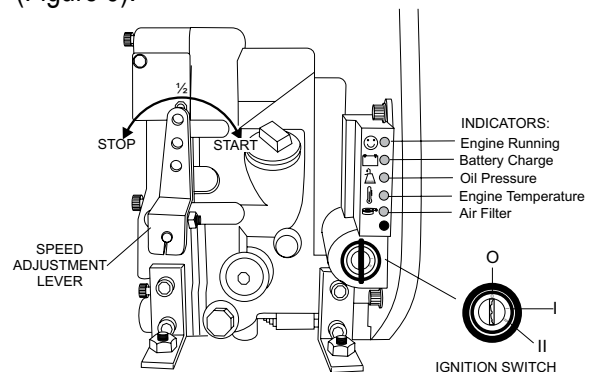

Figure 9. Engine Electric Start
1. Move the speed lever control to the START position (Figure 9).
2. Turn the key in the ignition switch to position I and verify that the BATTERY CHARGE indicator comes on (Figure 9).